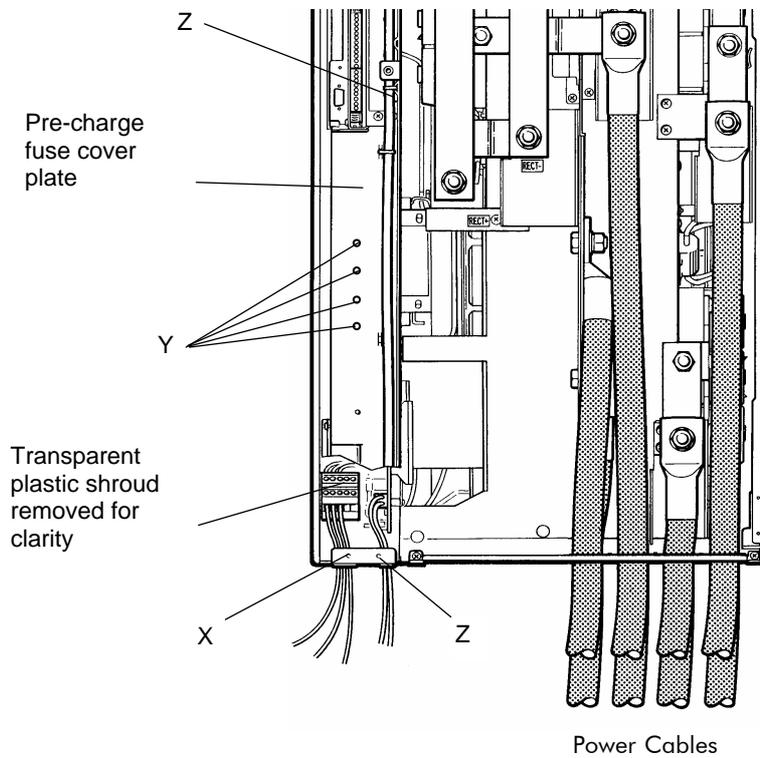

Figure 8-2 Frame size 6 and 7 pre-charge fuse access
(See Figure 8-2, size 7 shown)
The pre-charge fuses are mounted on a printed circuit board (pcb) behind the pre-charge fuse cover plate, see Figure 8-2. The transparent plastic shroud protecting the fan terminal block is attached to the chassis at (X) and to the cover plate.